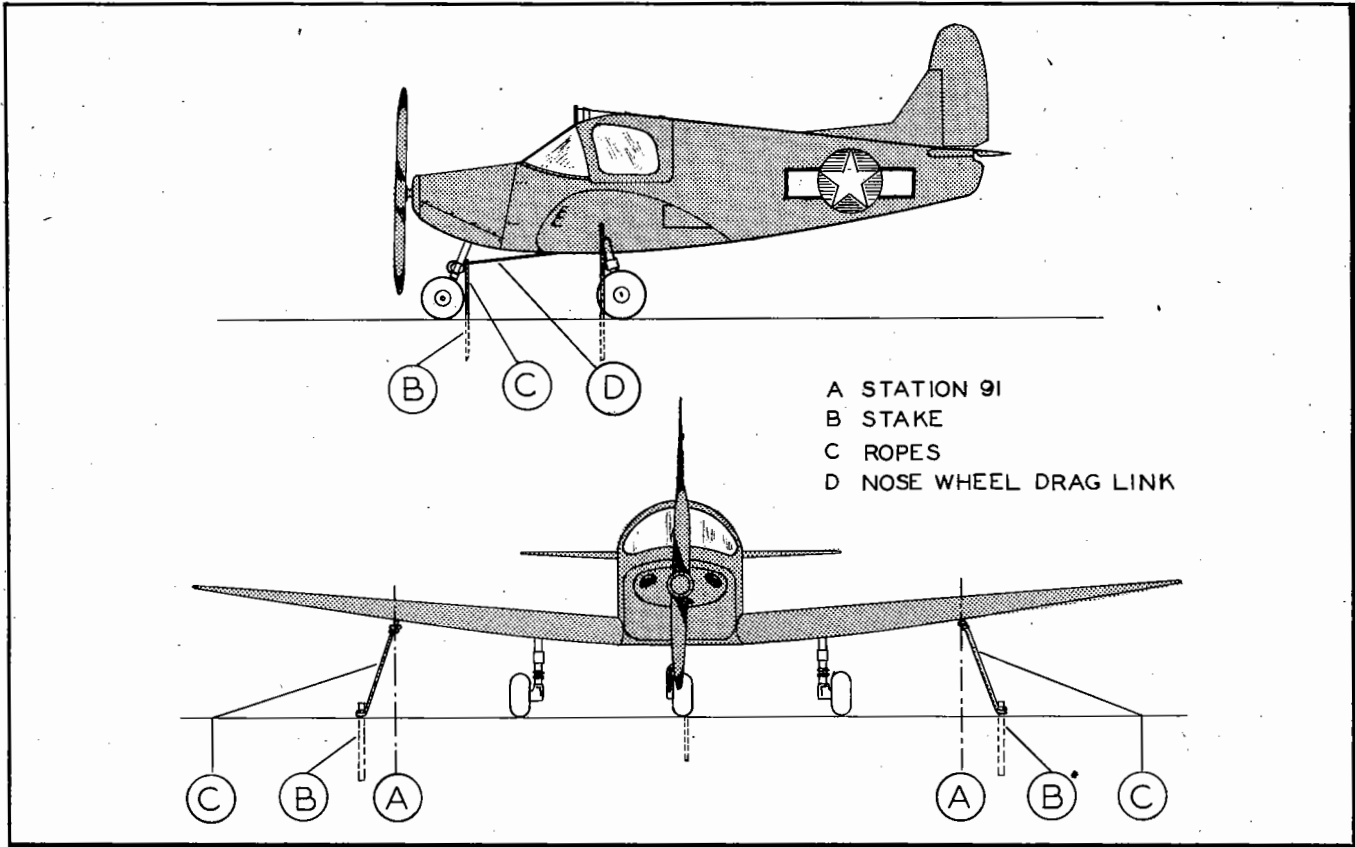

Figure 23—Mooring Diagram
d. TIE-DOWN—PARKING AND MOORING. — Mooring rings have been attached to the wing spar at station 91. The airplane shall be moored to stakes driven in the ground slightly outboard and to the rear of the wing mooring points and as close as possible to the nose wheel knuckle. Head the ship into the wind before mooring and lock the control stick by placing the pin provided through the aileron stick links and into the floor board. (See figure 23.)